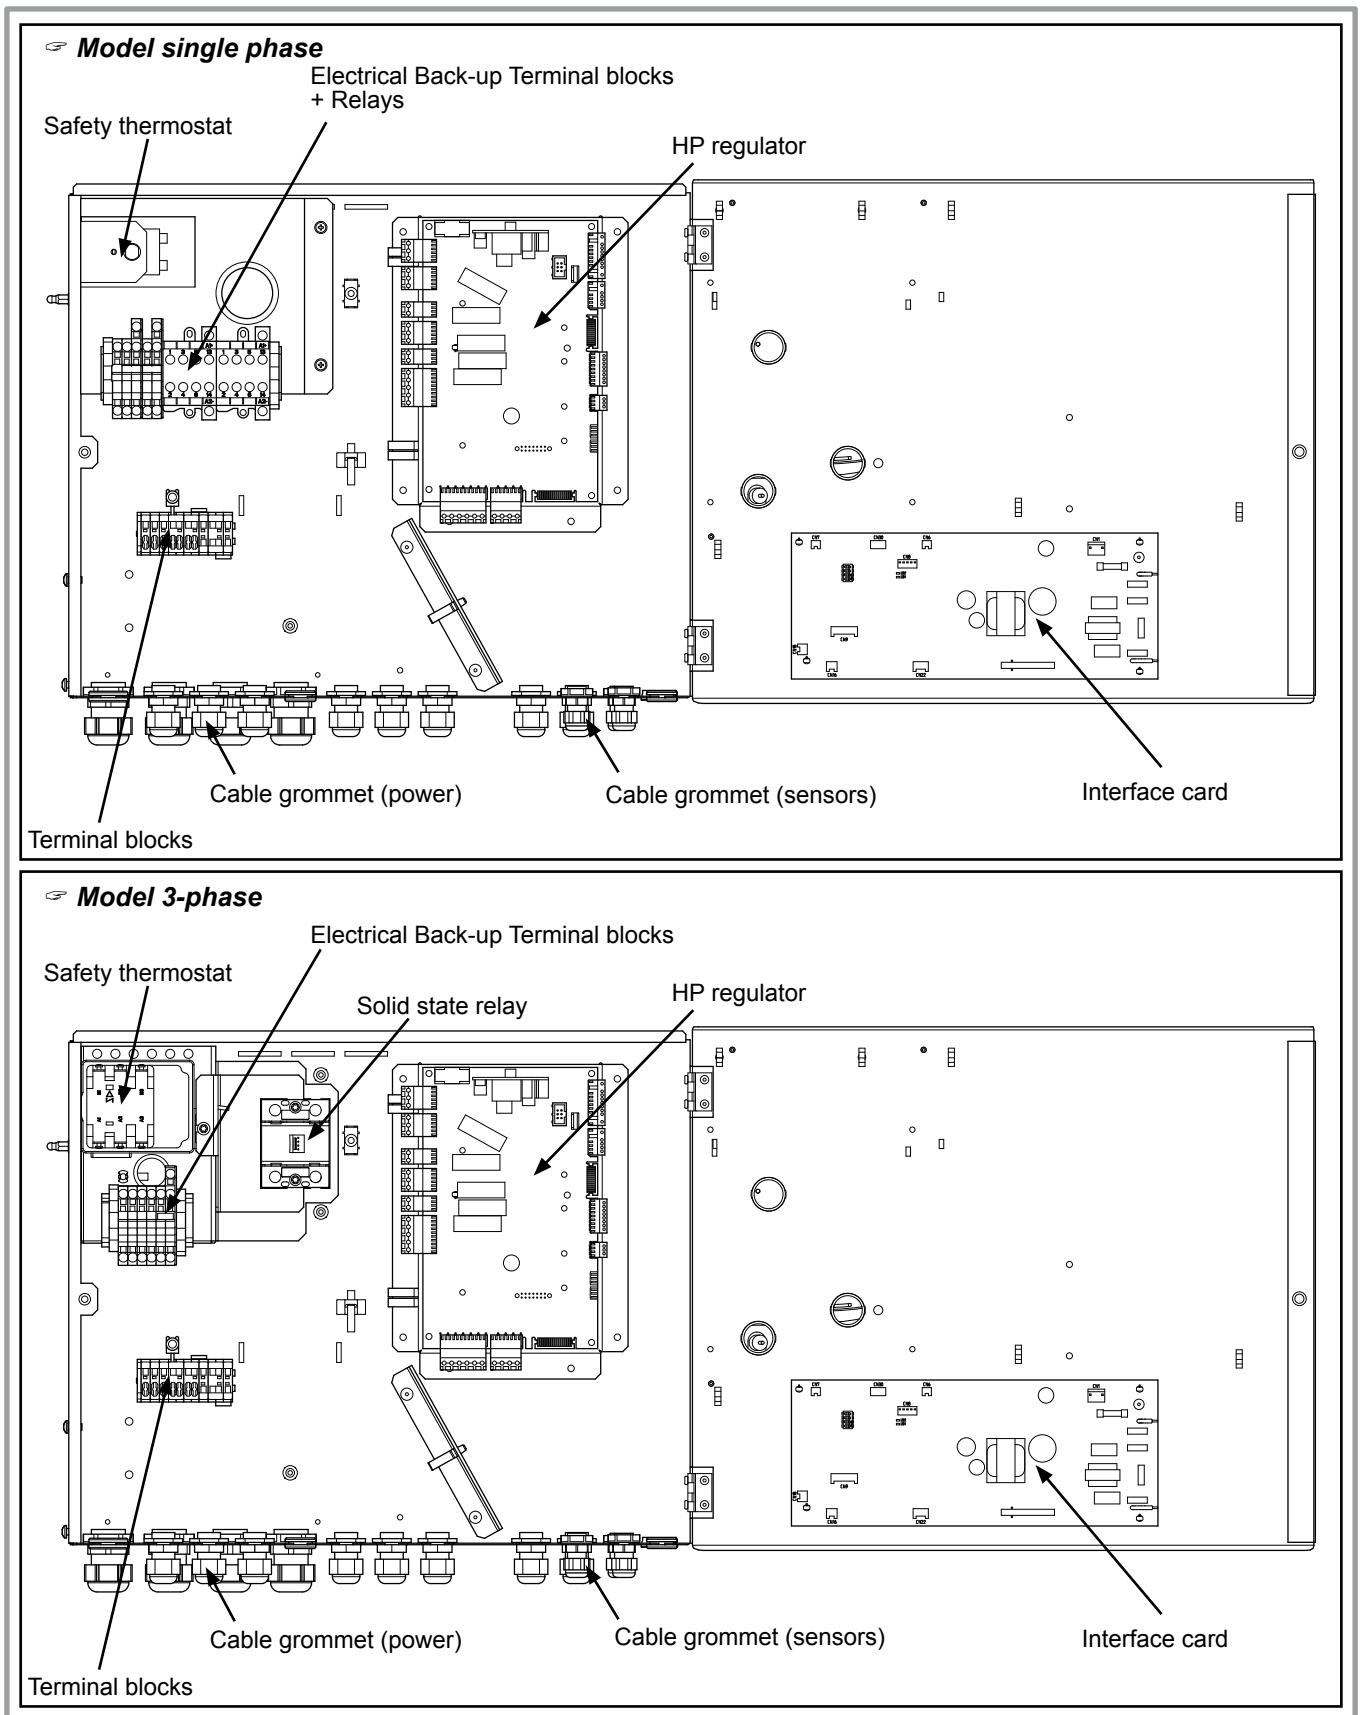

figure 32 - Access to hydraulic model electric box and description
- Make the connections in accordance with the diagram figure 32.